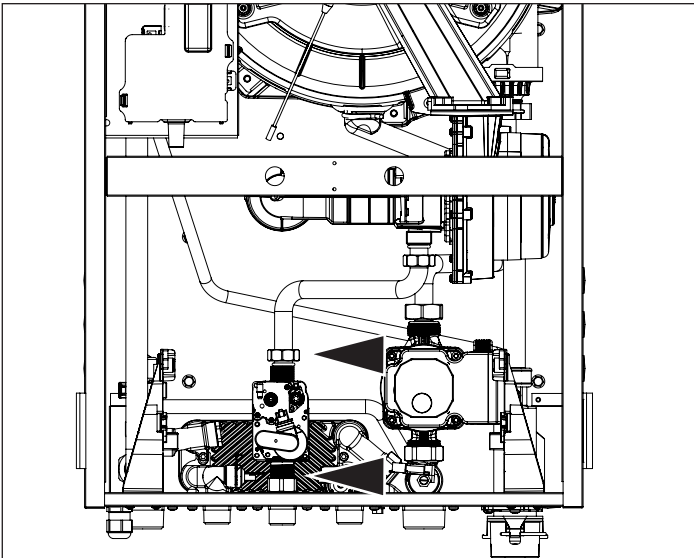

Figure 94 - Disconnect the Gas Line
- Remove the two nuts above and below the gas valve. See Figure 94.